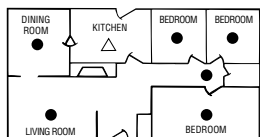
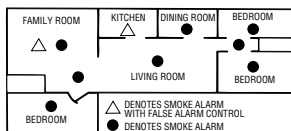

FIGURE 1
FIGURE 2
- Do install a smoke alarm in the hallway outside every bedroom area. If the bedroom has a door, there must be a smoke alarm inside and outside the bedroom. See Figure 1. If your home or residence has two bedroom areas, a smoke alarm must be placed outside the second bedroom area, and inside the bedroom(s) if they have doors. See Figure 2.